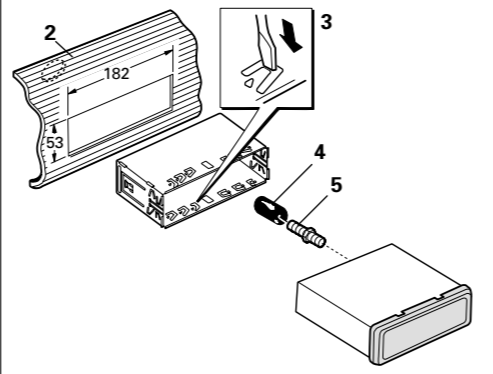

Fig. 3
**DIN Front-mount****Installation with the rubber bush (Fig. 3)**